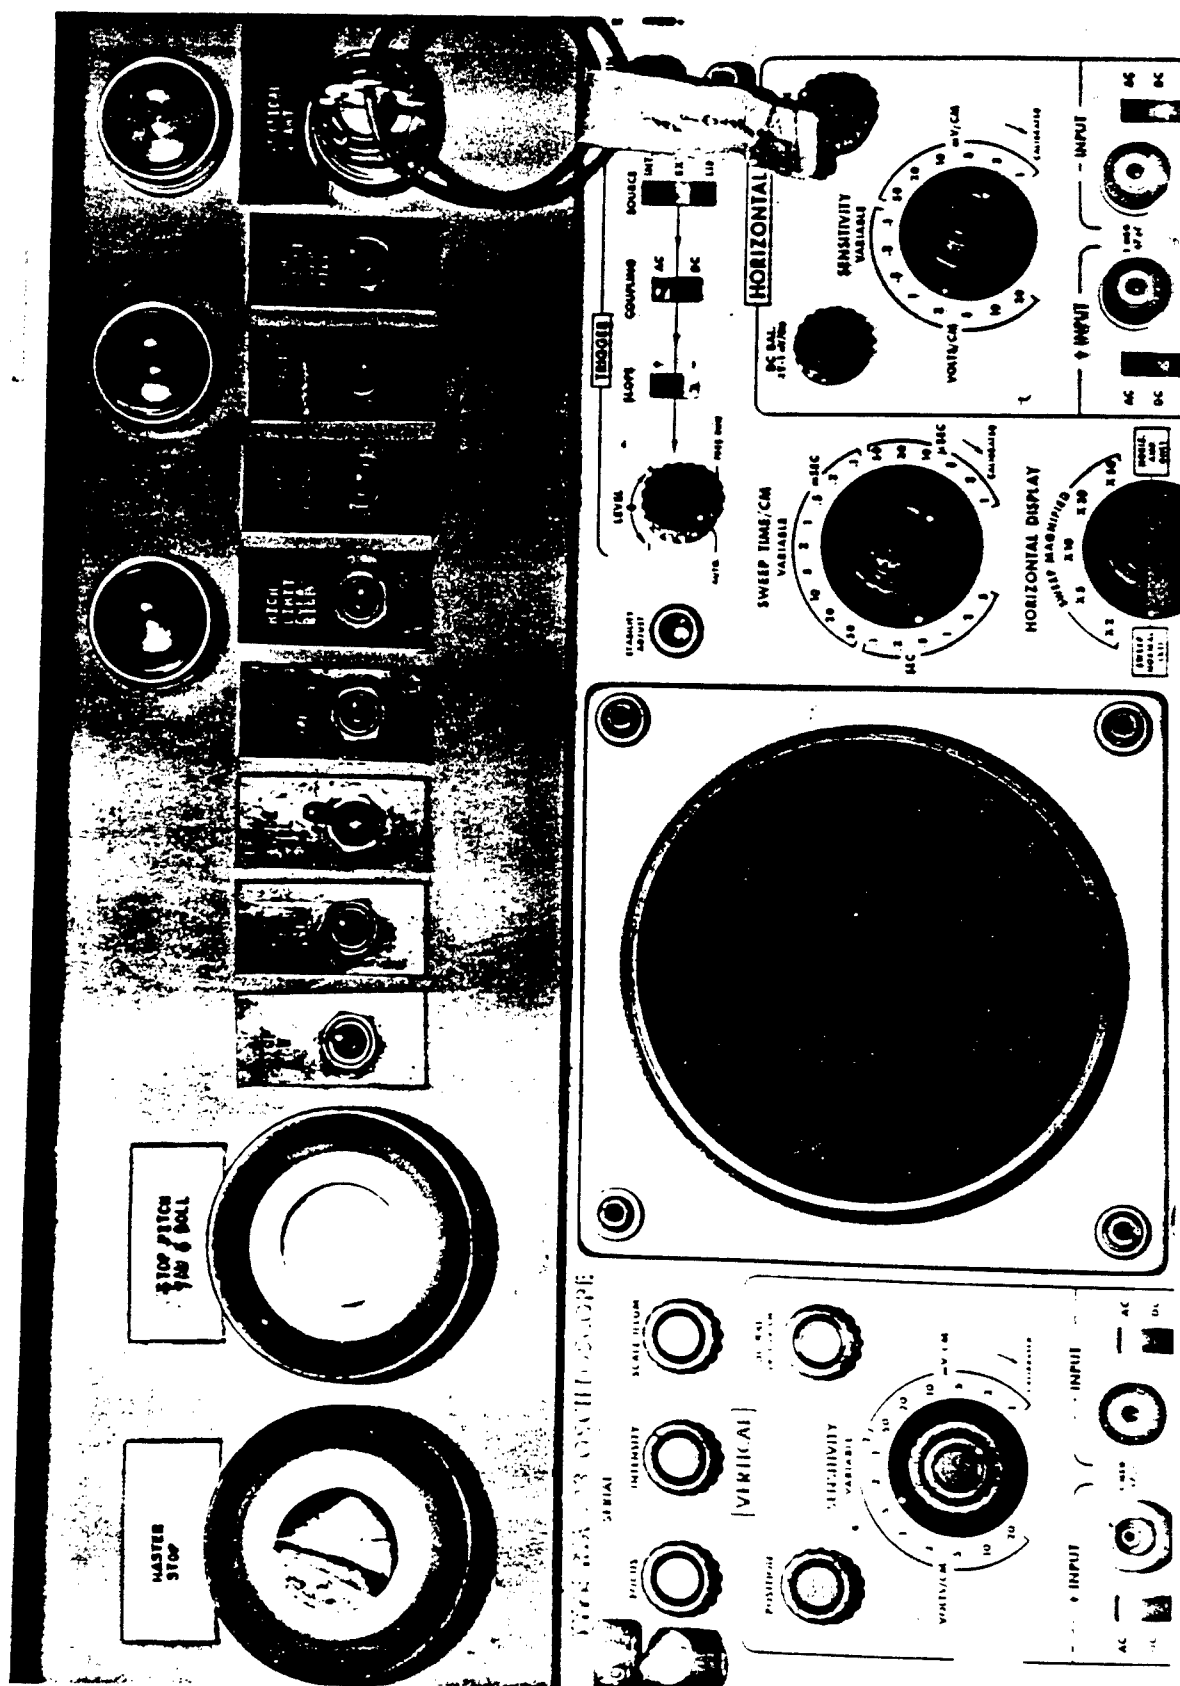

Figure 5-6. Pneumatic Control Panel
5.2.1.1. "Red" master stop button (operator controlled). Located on the pneumatic console (Fig 5-6) is a "Red" master stop button which is controlled by the operator. If the operator should see any uncommon happenings, he will press the button, which will deactivate blocking valves on all four degrees of freedom. This will stop hydraulic flow to the actuators, thereby stopping all motion of the RMS.
5.2.1.2. "Black" stop roll, pitch, and yaw button (operator controlled). This button is located adjacent to the "Red" master stop button on the pneumatic control panel (Fig. 5-6). This button operates identically to the "Red" master stop button, except it does not stop vertical motion.